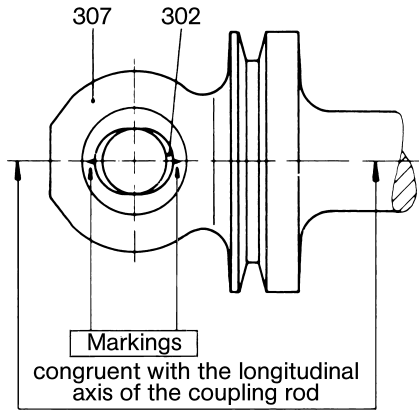

Figure 6: Pressing-in of the coupling rod bush
- Press drive shaft (118) with all mounted parts into the bearing bracket (110). Slightly oil bearing seats previously.
- Mount circlip (108).
- Push flinger ring (114) into bearing direction.
- Insert key (101) in the drive shaft (118) and lock with two punch marks on the front side.
- With a brass drift, drive bushes for coupling rod pin (303) half-way into rotor (401).
- Press coupling rod bush (302) into the coupling rod (307) so that the longitudinal axis of the oval hole (marked by 2 notches) coincides with the longitudinal axis of the coupling rod and the coupling rod bush protrudes symmetrically from both sides of the coupling rod (please refer to Figure 6 below).